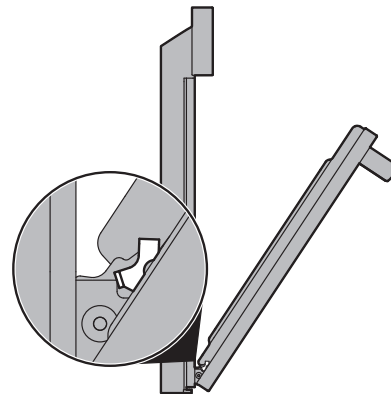

Figure 26: Removal position
3. Grasp the door by the sides, and close the door until the door frame makes contact with the unlocked hinges (Figure 26).
2. Hold the oven door at the same angle as the removal position (Figure 26) Carefully insert the hinge levers into the oven frame until you feel the hinge levers are seated into the hinge notches. The hinge arms must be fully seated into the hinge notches before the oven door can be fully opened.